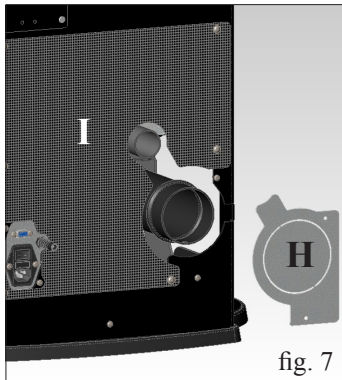
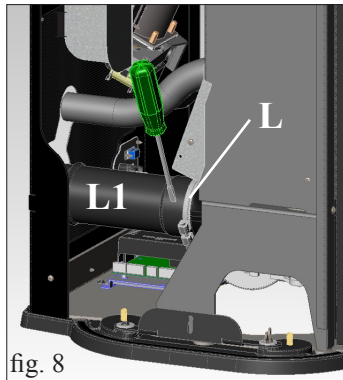

fig. 7
fig. 8
- Take the glass sides off (H - fig. 7) and remove the protection
- Remove the rubber pads fixed under the fixing brackets (upper and lower) for the glass sides (I - fig. 8)
- Remove the supported glass top (H - fig. 7).
- Remove the side steel, fixed to the structure of the stove with 2 screws (X - Fig. 7) to remove, pulling it upwards (I - Fig. 8)
- Remove the diaphragm (H - fig. 7) and, if necessary the perforated lower rear panel as well (I - fig. 7).
- Slacken the clamp (L - fig. 8) and remove the outlet flue pipe (L1 - fig. 8).